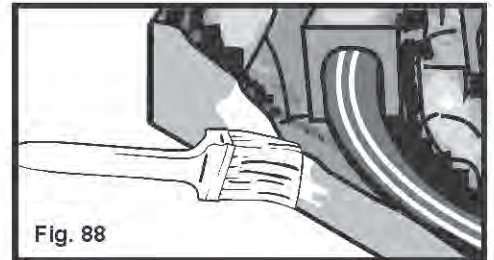

Fig. 88
2. Use a 2" paintbrush and Gray Base Paint to paint sides of layout. Begin at the front and paint all sides (**Fig. 88**).